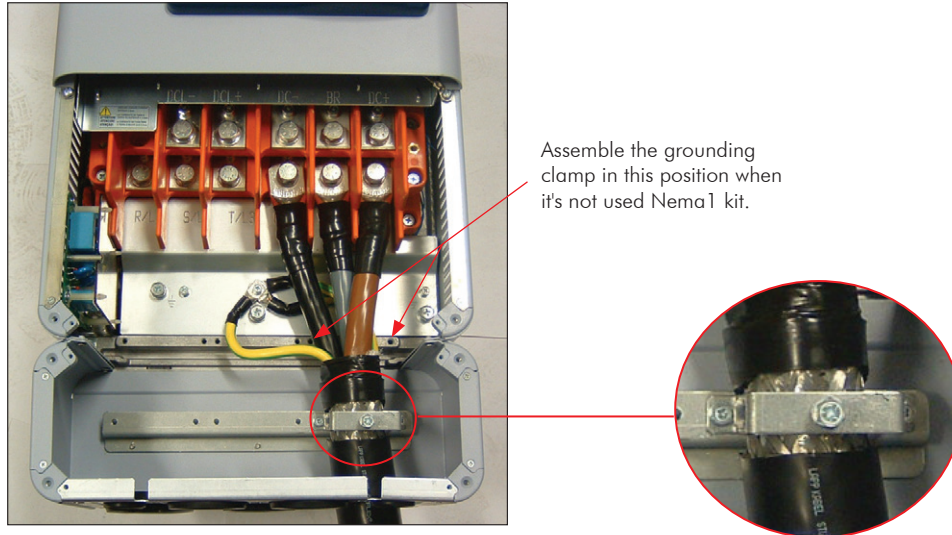

Figure 3.17 - Example of the motor cable shield connection at the inner part of the Nema1 kit supplied with the product
- (1) SCu = copper or aluminum external shielding.
- (2) AFe = steel or galvanized iron.
- (3) PE = ground conductor.
- (4) Cable shielding shall be grounded at both ends (inverter and motor). Use 360° connections for a low impedance to high-frequencies. Refer to Figure 3.17 on page 3-24.
- (5) For using the shield as a protective ground, it shall have at least 50 % of the power cables conductivity. Otherwise, add an external ground conductor and use the shield as an EMC protection.
- (6) Shielding conductivity at high-frequencies shall be at least 10 % of the power cables conductivity.
- ✓ Connection of the motor cable shield to ground: make a connection with low impedance for high frequencies. Example in the Figure 3.17 on page 3-24. In inverters without the Nema1 kit, connect the motor cable shield to the ground in a similar mode, with the clamp at the inverter inner part, according to the Figure 3.17 on page 3-24.